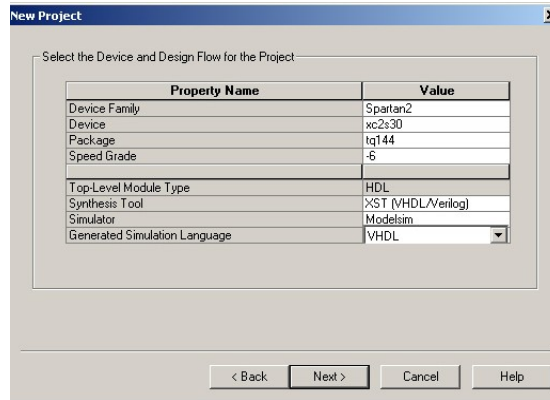

Figure 4; Creation of a project. The format for **Project Location** must be **“C:\ece238\spring2005\student\_name\lab7”**
2. Create counter project; In the Project Navigator, select **File** → **New Project** and setup options as in figure 4. Click **OK**.